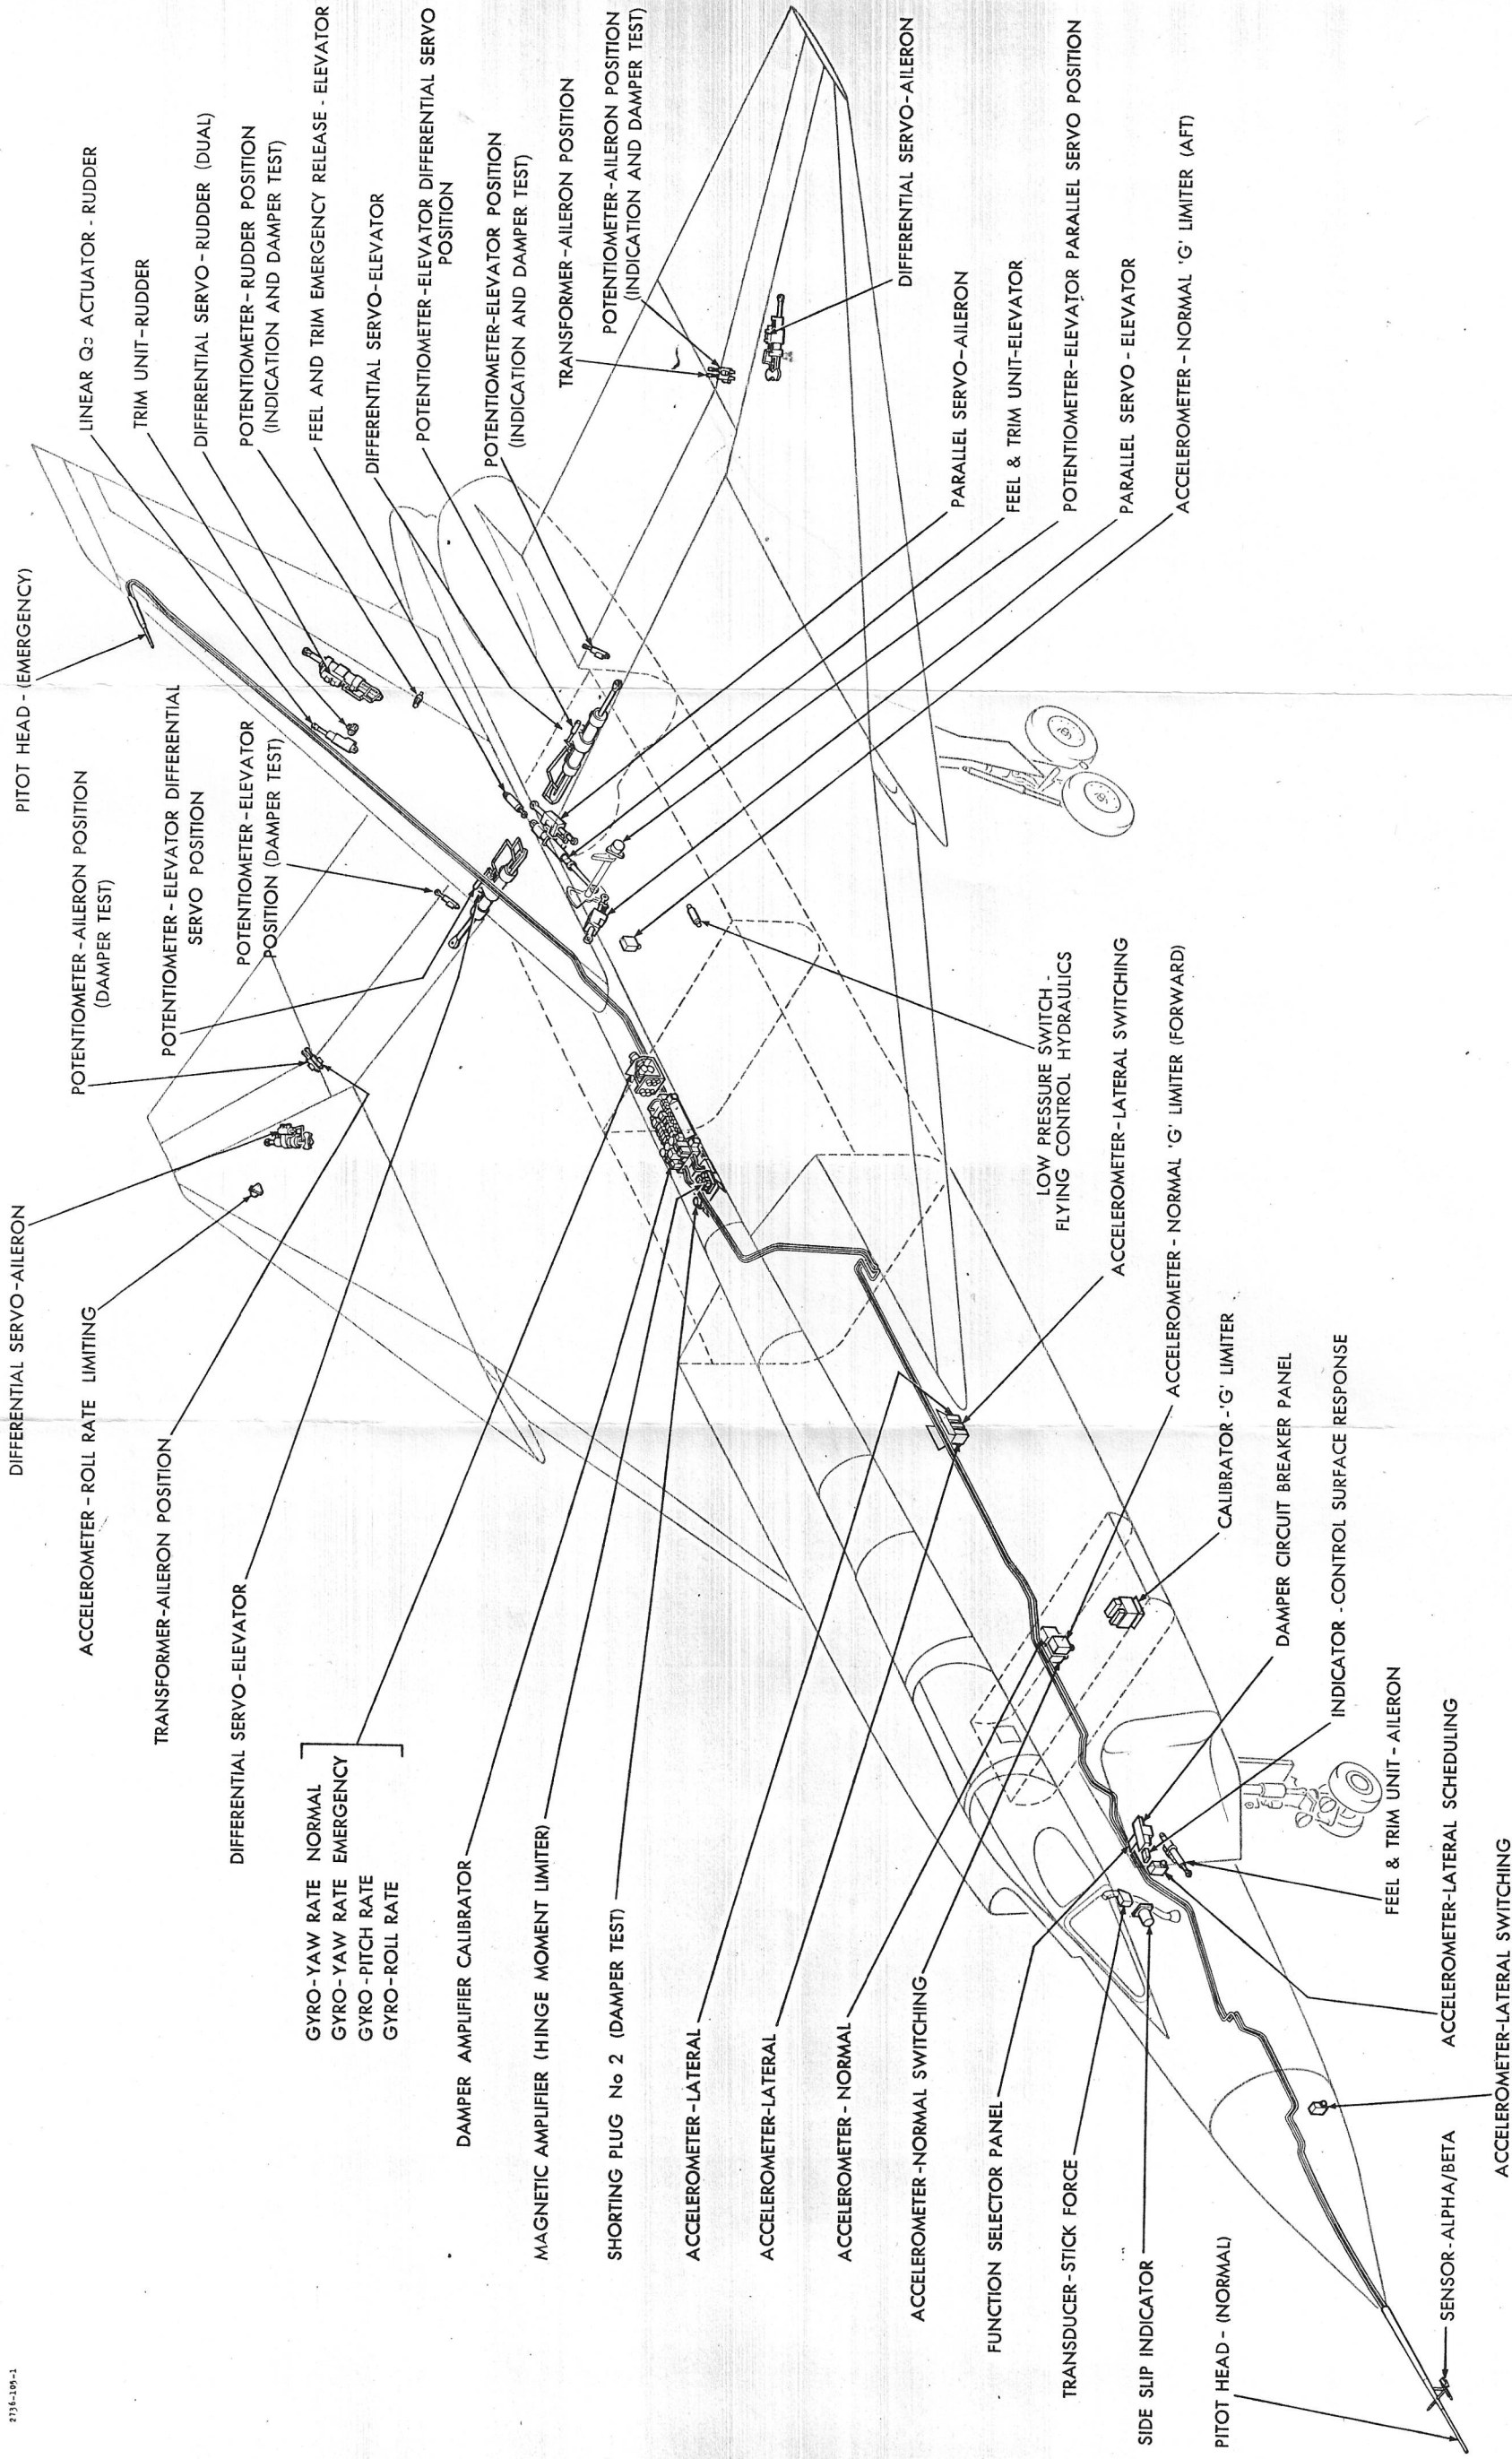

FIG. 1 DAMPER AND ASSOCIATED EQUIPMENT LOCATION
- FIGURE 1 Damper and Associated Equipment Location